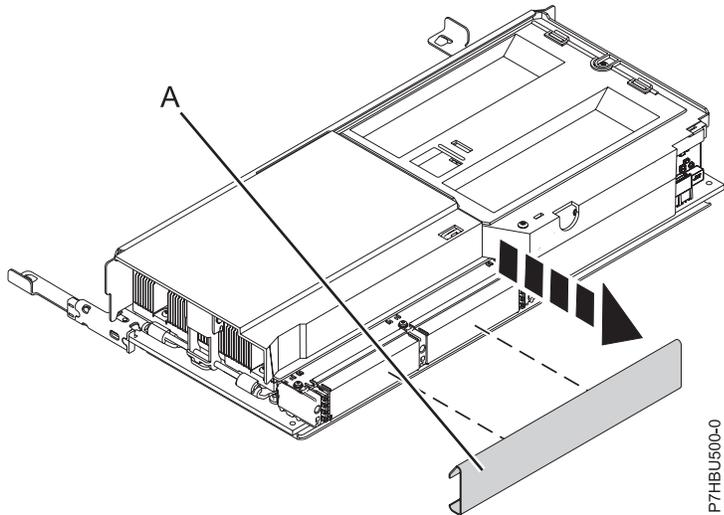

Figure 2. Removing the protective cover from the connector pins
11. Check for the protective cover that might be present on the lower-right connector pins. If a protective cover is present, remove the cover (A), as shown in Figure 2 on page 5.